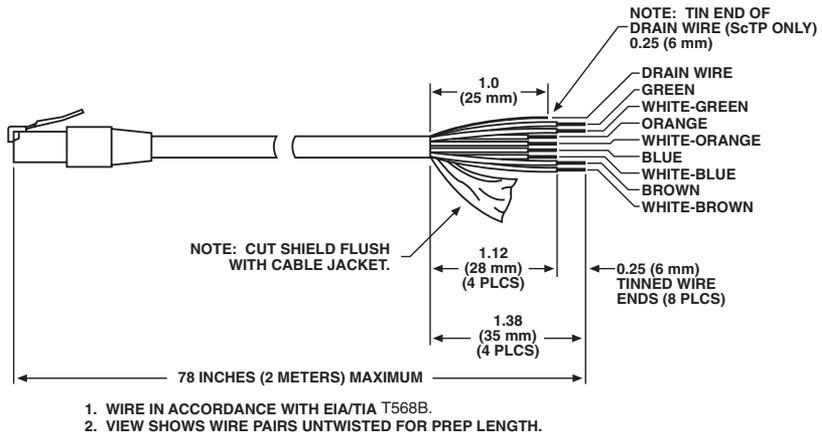

Figure D-2. Cable Preparation per EIA/TIA T568B.
3. Arrange the cable and wire pairs as shown in Figure D-2. Do not untwist the pairs any more than required to strip the wire ends.